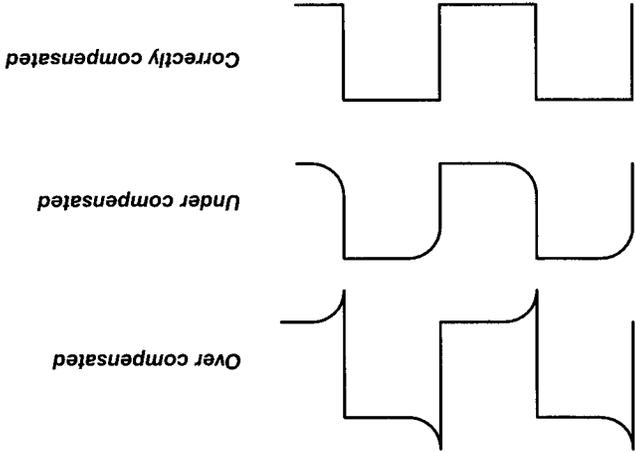

Figure 1-3: Checking Probe Compensation
Step 6: Check the waveform against Figure 1-3 to see if the probe is correctly compensated.